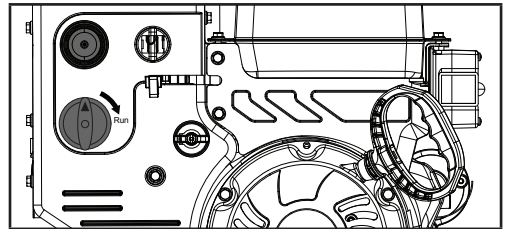

Figure 9B
- b. To start a warm engine, move the choke lever to the run position (Fig. 9B).
5. Use primer control depending on unit's temperature (Fig. 9B):
8. When the engine starts, move the choke to run position (Fig. 9B).